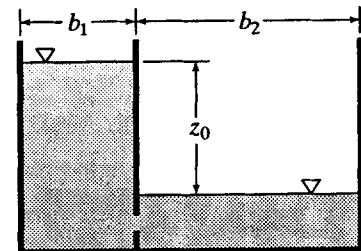

Figure X12.2.7
12.2.8 The tank in Fig. X12.2.7 has vertical sides,  $b_1 = 3.6\text{ m}$ ,  $b_2 = 7.2\text{ m}$ ,  $z_0 = 4.2\text{ m}$ , and its dimension normal to the plane of the paper is  $a = 1.8\text{ m}$ . The vertical dividing plate has a submerged orifice  $0.063\text{ m}^2$  in area ( $C_d = 0.65$ ). How long will it take for the two water surfaces to equalize?
See Fig. X12.2.7 with Solution 12.2.7.